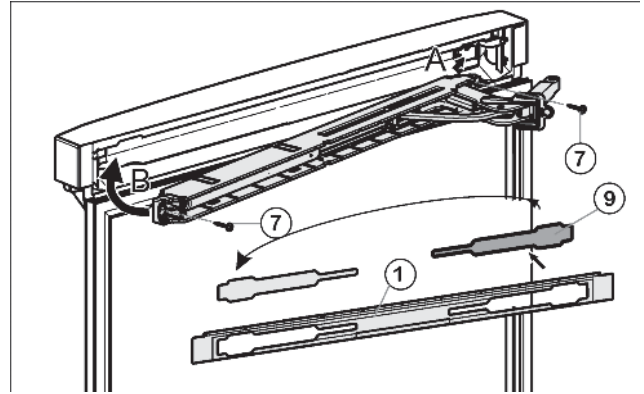

Fig. 17
- ▶ Loosen cover Fig. 17 (9) from the panel Fig. 17 (1) and insert on the other side.
- ▶ With the hinge of the upper soft stop unit facing the door hinge side, engage the soft stop unit (A) and swivel inwards (B)
- ▶ Tighten soft stop unit (2 x Torx® 15) Fig. 17 (7).